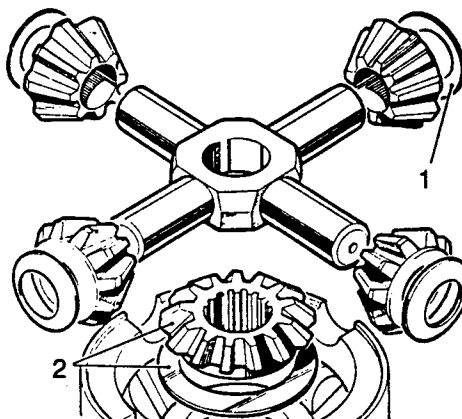

Fig J2.21
(7) Refer to Fig J2.21. Withdraw the dished thrust washers (1).
(8) Withdraw the lower differential wheel and thrust washer (2).